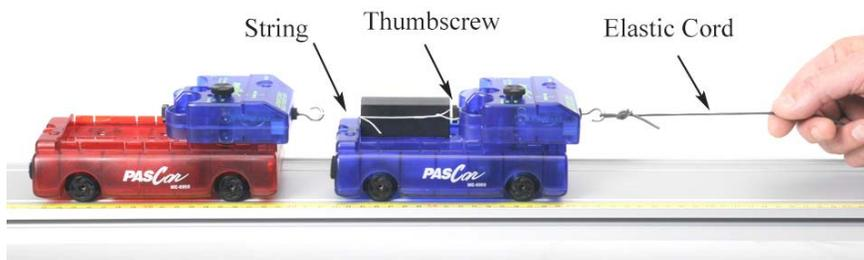

Figure 4: Setup for measuring internal and external forces
- Move the Force Sensor on the blue cart to the opposite end as shown in Figure 4. Do not just turn the cart around because the magnets in the ends of the carts would interact.
- The string connecting the carts should now be fastened to the thumbscrew on the back of the Force Sensor on the blue cart (see Fig. 4) and the Elastic Cord is connected to the Force Sensor hook.